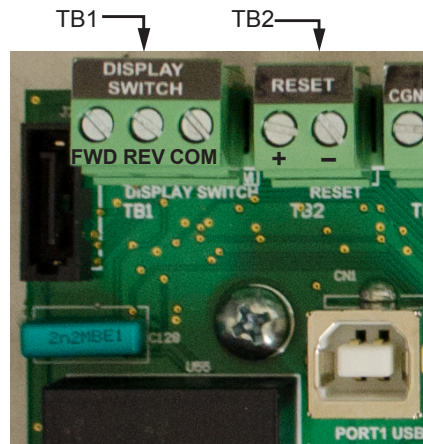

Figure E.4—Terminal blocks 1 and 2 indicating wiring positions
10. Wire the display switch to TB1 (display switch) as follows, referencing Figure E.4, Page E-3 as needed:
12. Wire the reset switch to TB2 (reset switch) as follows, referencing Figure E.4 as needed: